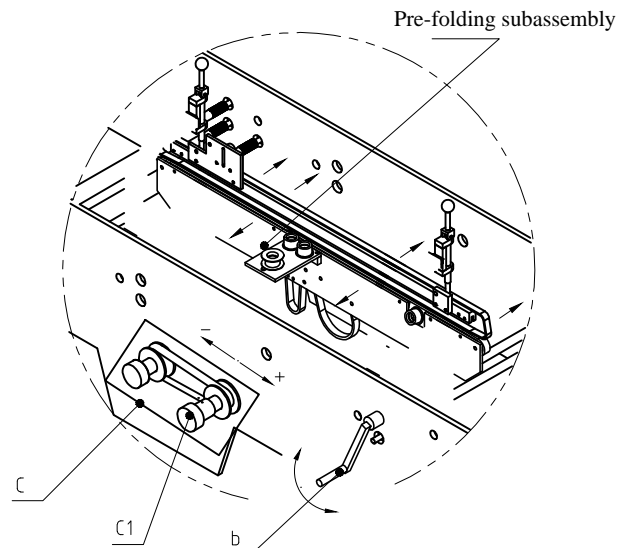

Fig 2-2
- ③ Press down the pressure-adjusting handle (D), to raise the upward clamping subassembly and eliminate the pressure, contrarily, to apply pressure. See Fig2-2. Move the pressure-adjusting button (D1) up and down to increase or reduce the pressure of pressure subassembly.
- ④ Pre-folding small side folding subassembly (E), consists of pre-folding blade and resetting steel bar, adjust the datum plane of the blade to level, fold the box of small side 180°. The resetting steel bar reset the paper box to flat paper. The detailed position is to be decided according to the moving situation of paper.